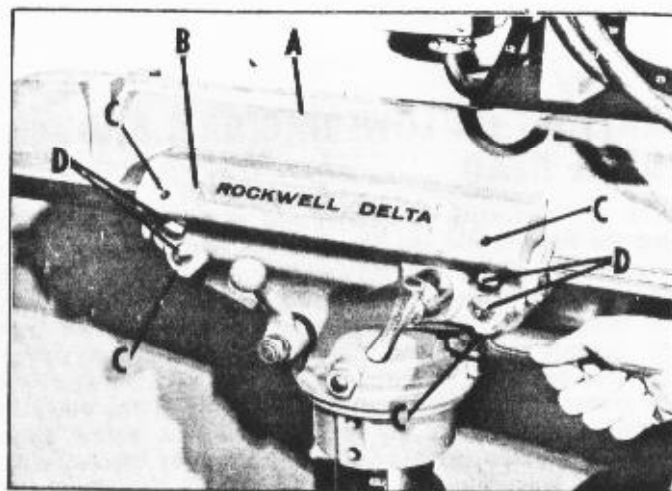

Fig. 17
The cradle (B) Fig. 17, is equipped with eight ball bearings placed on an eccentric to permit take-up of wear between the ram (A) and cradle (B), and also to insure that the ram travel is parallel with the table surface. If an adjustment is ever necessary, loosen the four set screws (C) Fig. 17, located above and below the four adjusting plugs (D). Four additional set screws and adjusting plugs are also located on the other end of the cradle. Adjustment is made by tightening or loosening the adjusting plugs (D). NOTE: This adjustment has been made at the factory and should not be disturbed unless absolutely necessary.